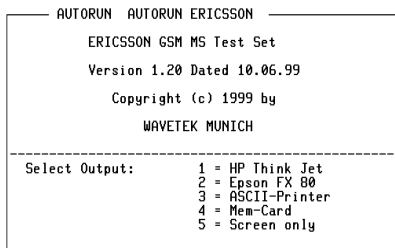

Fig. 10.2: Choosing output medium:
4. Select the output medium (see **Fig. 10.2**).
If you chose HP Think Jet or EPSON FX 80 as the output medium when starting the AUTORUN option (see **Fig. 10.2**), the results will be read out on the printer while the test is running.